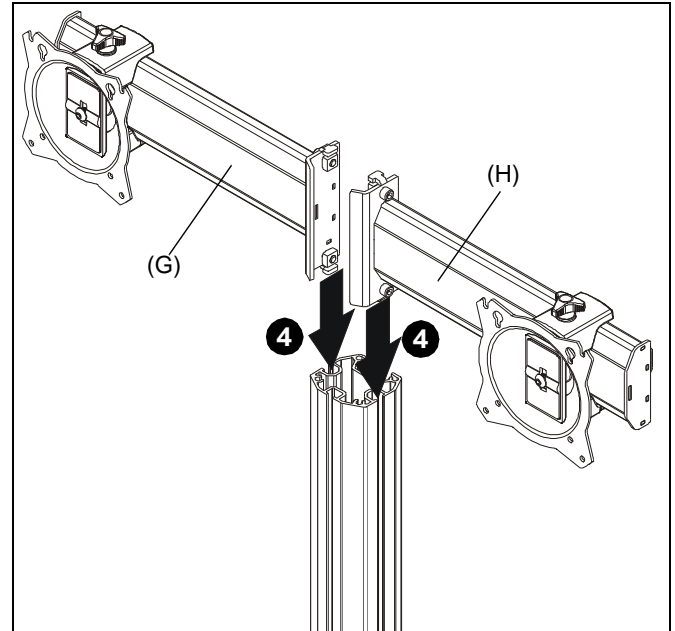

Figure 3
4. Slide right and left array arms (G and H) into column (F). (See Figure 3)